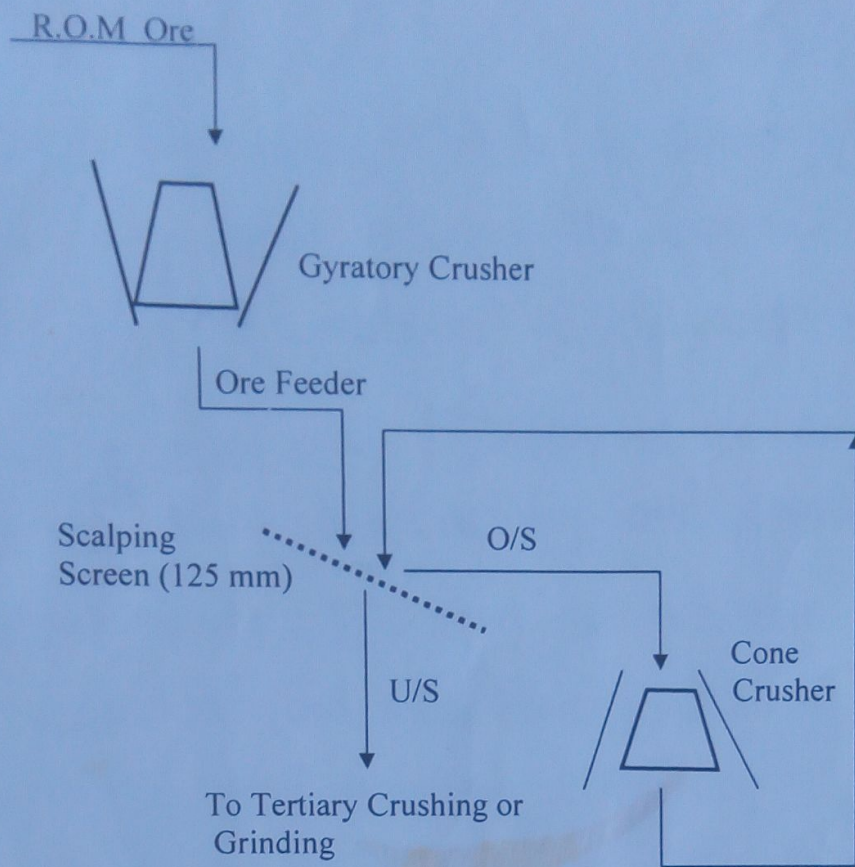

Figure 1: Primary crusher in open circuit, secondary crusher in closed circuit with screen
- c) Figure 1 shows primary crushing in a gyratory crusher and secondary crushing in a cone crusher, which is in closed circuit with a 125-mm aperture screen. The gyratory crusher is fed at F t/h (dry ore). The fraction that passes 125 mm screen aperture in the feed, gyratory crusher discharge, screen oversize, cone crusher discharge, and screen undersize respectively are as follows: